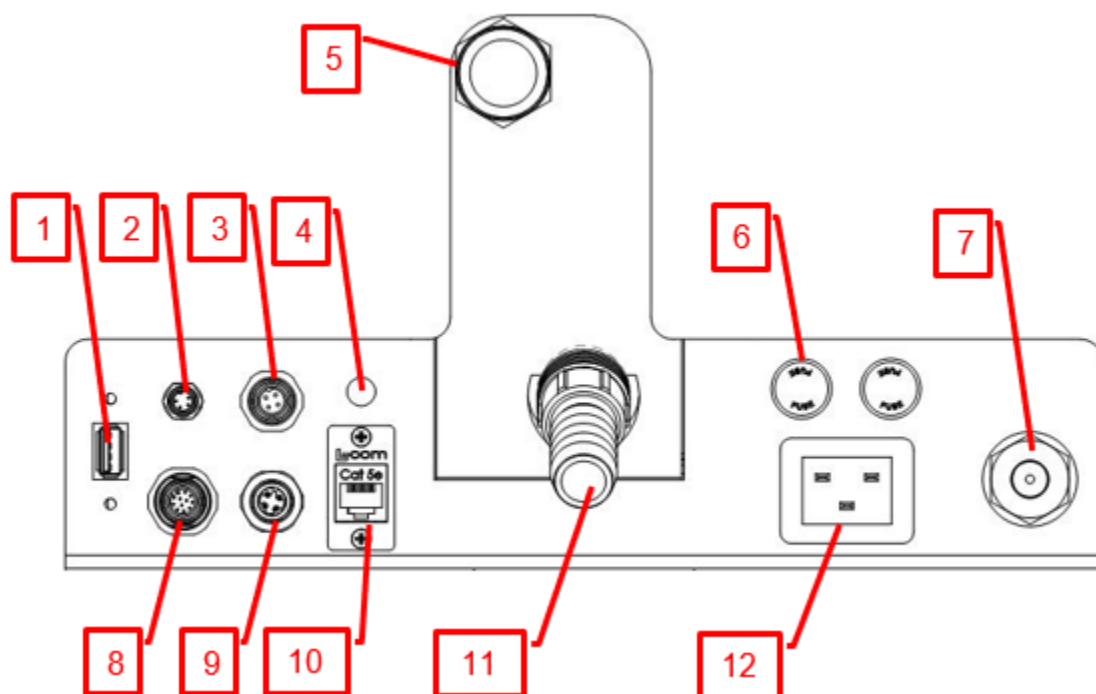

Figure 4: Cee® Apogee® Developer Facilities Connections
3. Connect utilities per the reference diagram in *Figure 4: Cee® Apogee® Developer Facilities Connections*.